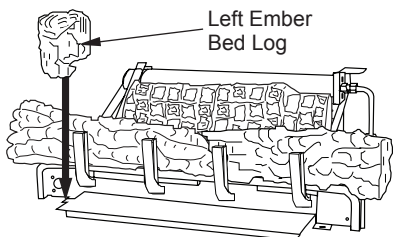

Figure 40 - Installing Left Ember Bed Log
4. Place left ember bed log (18" D-073, 24" & 30" D-048) as shown in Figure 40. The log has groove on one side that sets on the ember bed pan. The back side of this log needs to rest against the front of the base assembly. Make sure the flame from the ember pan does not touch the ember bed log.